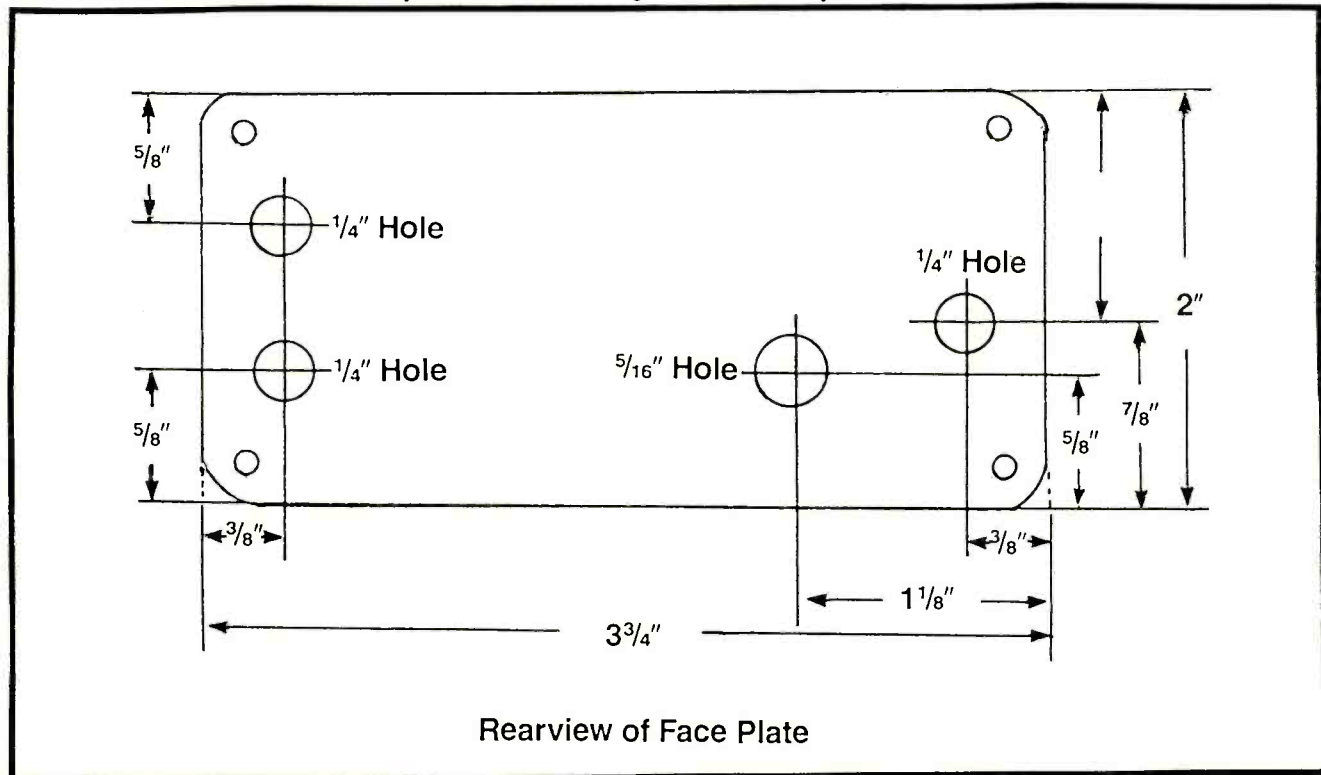

Figure 1 Face Plate Drilling Detail
**STEP 1.** (Refer to Figure 1 and Photo #2) Drill holes in the face plate as shown in Figure 1. Lightly sand the